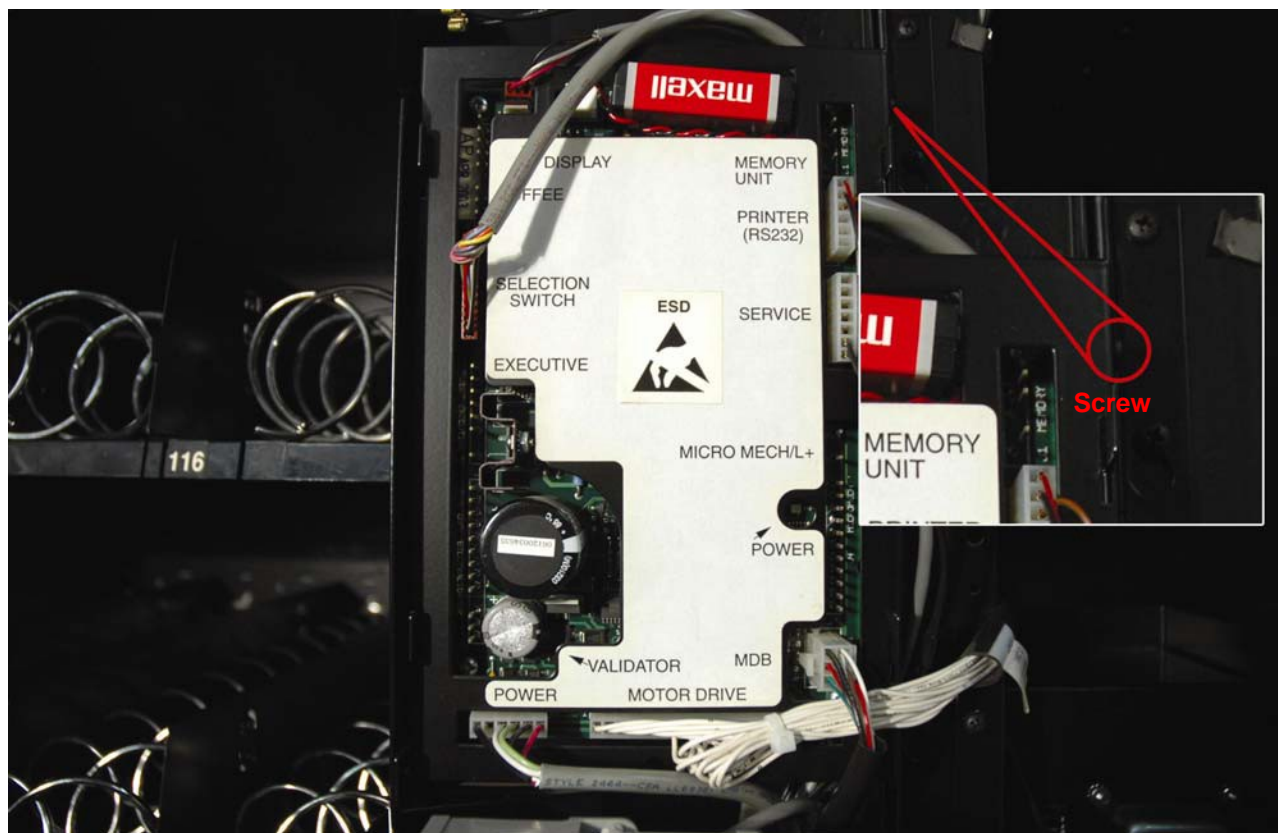

Figure 1
3. Unplug all harnesses from the existing controller PCB. See Figure 1. Also remove the coin mech and validator if present. Save 11/32” Hex Nuts.
4. Remove the control board cover by removing the Phillips screw at the top, right edge of the cover as shown. Discard cover and screw. See Figure 1.